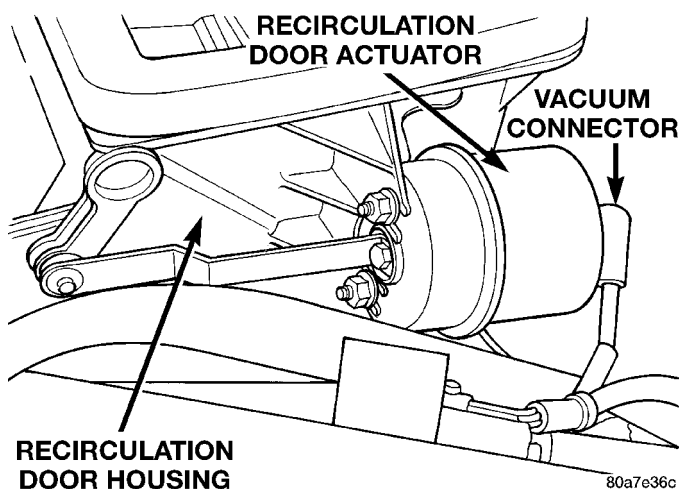

Fig. 42 Recirculation Door Actuator
- (1) Remove instrument panel from vehicle. Refer to Group 8E, Instrument Panel And Systems for removal procedures.
- (2) Disconnect vacuum line from actuator (Fig. 42).
- (3) Remove two nuts retaining vacuum actuator to recirculation door housing.
- (4) Disconnect actuator from recirc. door link.
- (5) Remove recirculation door actuator from vehicle.